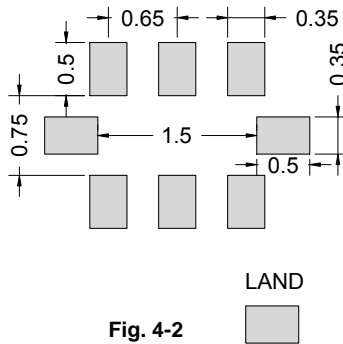

Fig. 4-2
2) Recommended Land Pattern: See Fig.4-2